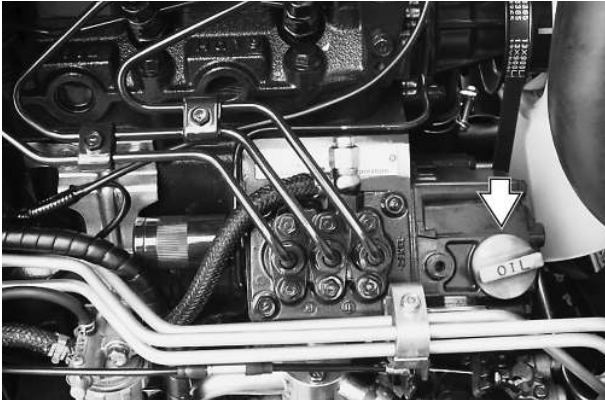

Figure 50 - Engine Oil Filler Cap
2. If the oil level is low, remove the filler cap, Figure 50, and add oil to the engine through the filler hole to bring the oil level between the marks on the dipstick. Be careful not to overfill.